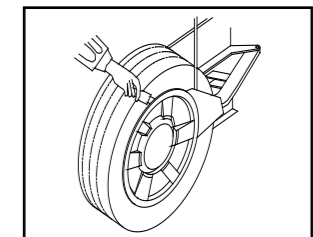

Fig.05
- Place the tyre between the bead loosener shoe and tyre control rubber, and make the shoe between the bead and tyre, about 1cm to the bead. And then step on the tyre control pedal (see 9 of Fig.01) to separate the bead from the rim. (See Fig.05).